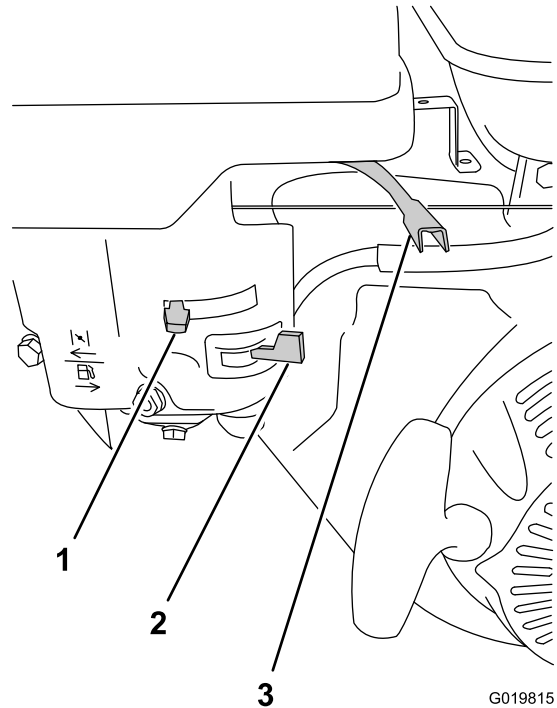

Figure 27
2. Move the fuel valve to the OPEN position, all the way to the right (Figure 27).
3. Move the choke lever to the ON position (Figure 27).